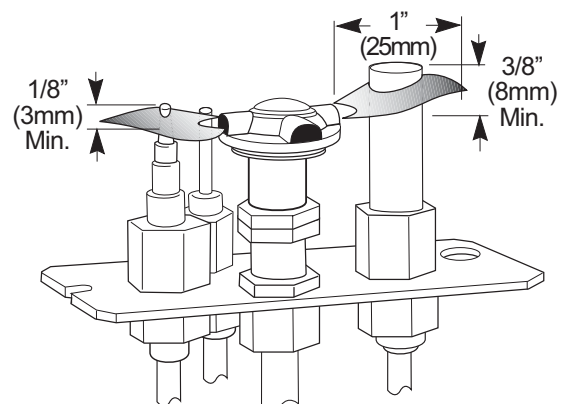

Figure 28. Proper pilot flame appearance.
2. **PILOT FLAME:** You can monitor the pilot flame through the view port located at the rear of the Right Log. See fig. 28. The pilot flame should be steady - not lifting or floating. The flame should be blue in color around the pilot hood, with traces of yellow toward the outer edges. The pilot flame should engulf the top 3/8" of the thermopile (to generate millivolt current) and the top 1/8" of the thermocouple. The pilot flame should project out of the pilot hood 1" at all three ports. See fig. 28.